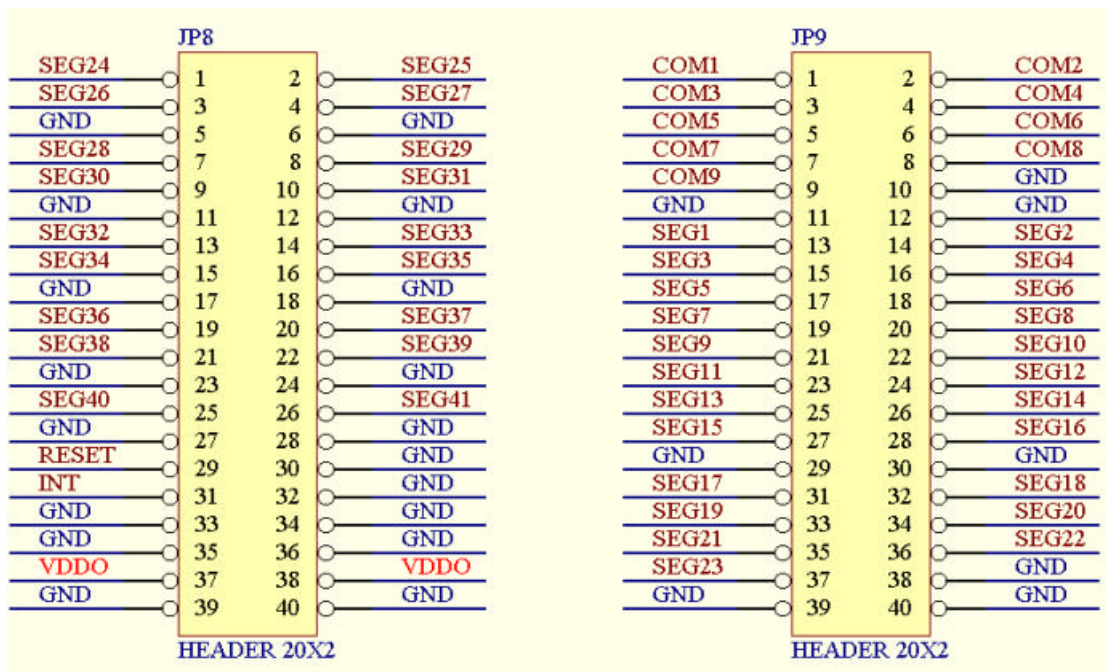

Figure 6
2. JP8,JP9:連接至外部測試板或 LCD panel signal,請參考 Figure 6.